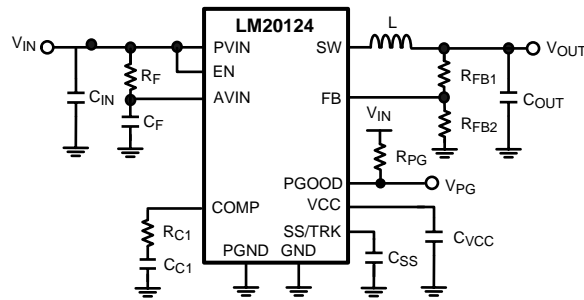

Figure 25. Typical Application Circuit
The LM20124 switching regulator features all of the functions necessary to implement an efficient low voltage buck regulator using a minimum number of external components. This easy to use regulator features two integrated switches and is capable of supplying up to 4A of continuous output current. The regulator utilizes peak current mode control with nonlinear slope compensation to optimize stability and transient response over the entire output voltage range. Peak current mode control also provides inherent line feed-forward, cycle-by-cycle current limiting and easy loop compensation. The fixed 1 MHz operating frequency minimizes the inductor size while still achieving efficiencies up to 96%. The precision internal voltage reference allows the output to be set as low as 0.8V. Fault protection features include: current limiting, thermal shutdown, over voltage protection, and shutdown capability. The device is available in the TSSOP 16-pin package featuring an exposed pad to aid thermal dissipation. The LM20124 can be used in numerous applications to efficiently step-down from a 5V or 3.3V bus. The typical application circuit for the LM20124 is shown in Figure 25 in the design guide.
This section walks the designer through the steps necessary to select the external components to build a fully functional power supply. As with any DC-DC converter numerous trade-offs are possible to optimize the design for efficiency, size, or performance. These will be taken into account and highlighted throughout this discussion. To facilitate component selection discussions the circuit shown in Figure 25 below may be used as a reference. Unless otherwise indicated all formulas assume units of amps (A) for current, farads (F) for capacitance, henries (H) for inductance and volts (V) for voltages.
To prevent high frequency noise spikes from disturbing the sensitive analog circuitry connected to the AVIN and AGND pins, a high frequency RC filter is required between PVIN and AVIN. These components are shown in Figure 25, as  $C_F$  and  $R_F$ . The required value for  $R_F$  is  $1\Omega$ .  $C_F$  must be used. Recommended value of  $C_F$  is  $1.0\mu F$ . The filter capacitor,  $C_F$  should be placed as close to the IC as possible with a direct connection from AVIN to AGND. A good quality X5R or X7R ceramic capacitor should be used for  $C_F$ .